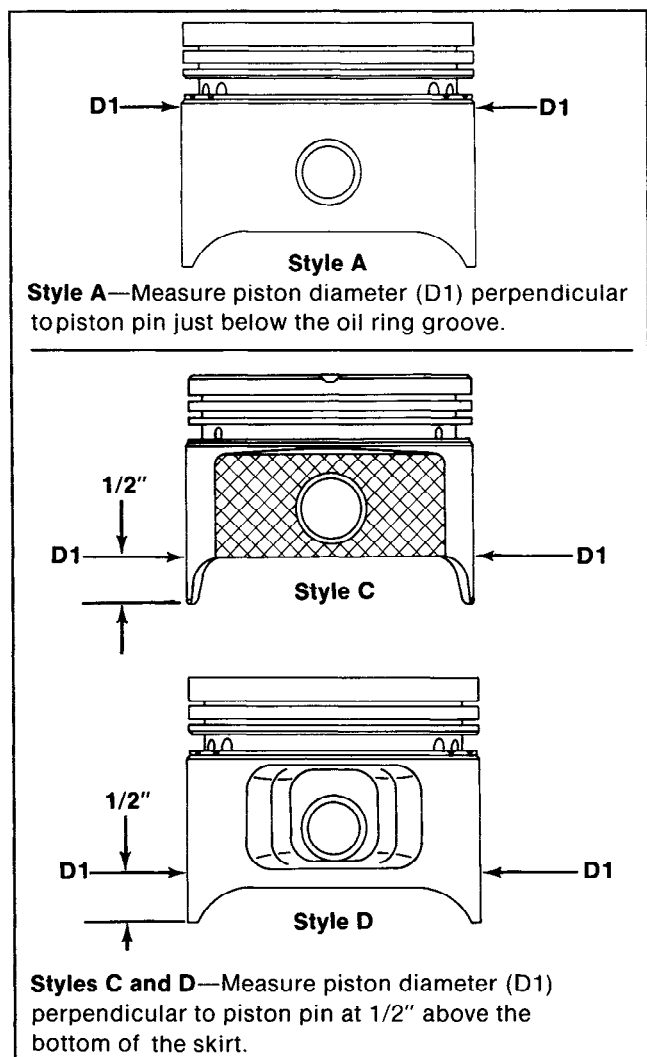

Figure 11-4. Measuring Piston Diameter.
1. Use a micrometer and measure the diameter of the piston as shown in Figure 11-4.